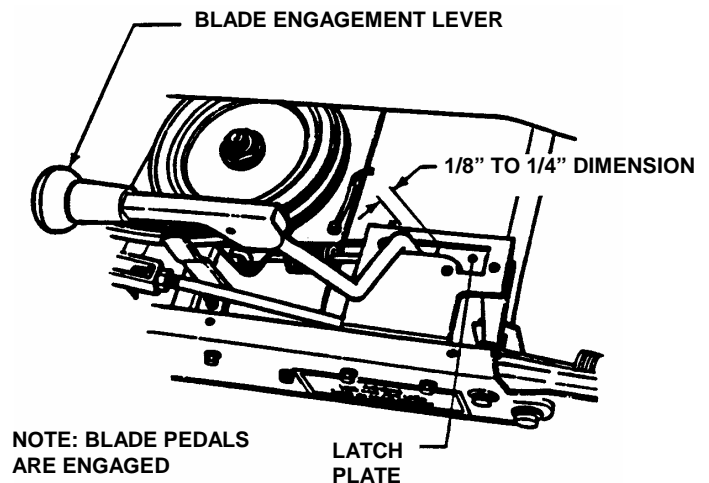

FIGURE 4.2
The automatic Blade Brake should stop the blades within 3 seconds anytime the blades are disengaged by moving blade lever to the "OFF" position or by releasing the Blade Pedals. When the Blade Brake is properly adjusted there should be 1/8" to 1/4" clearance between the Blade Engagement Lever and the back of the Latch Plate. Check this by disengaging the Blade Lever and depressing the Blade Pedals as shown in Figure 4.2. If clearance is greater than 1/4" perform the following adjustment.
2. With the blade engagement lever disengaged, hold the blade pedals down and measure the distance between the front of the blade lever and the rear of the latch plate. The dimension should be 1/8" to 1/4" clearance between lever and plate. See Figure 4.2. If the dimension is incorrect go to step 3.